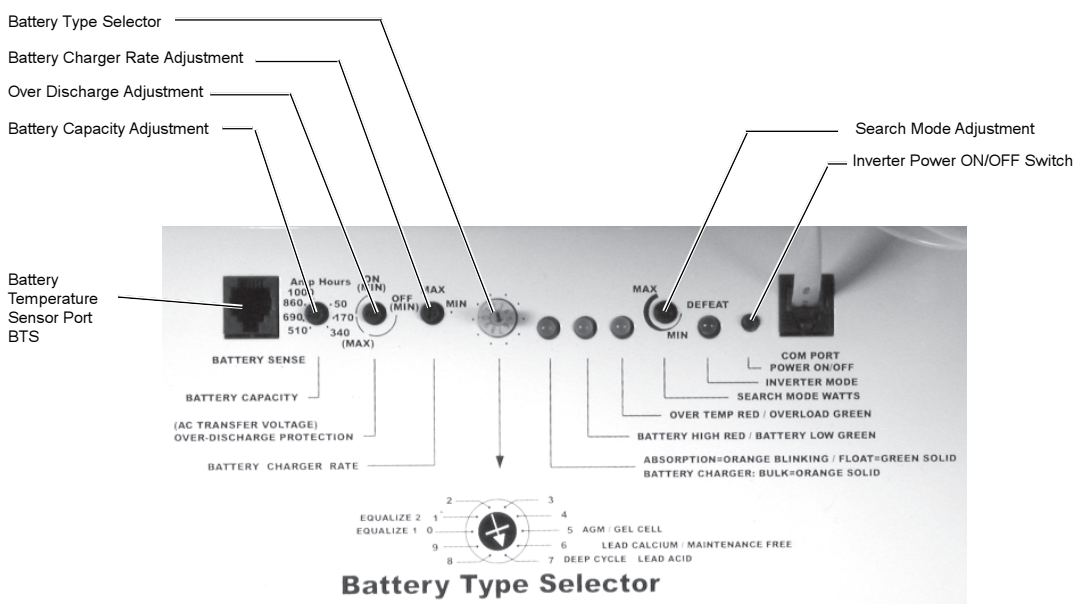

Figure 3-3
2. Refer to Figure 3-3 and set the BATTERY CAPACITY dial on the inverter to: